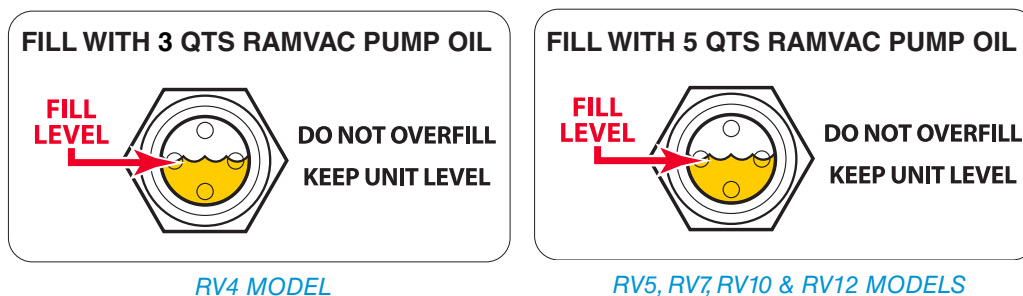

FIGURE 4. ADD VACUUM PUMP OIL TO FILL LEVEL
2. Add oil\* and check oil fill level at sight glass. **DO NOT OVERFILL.** To read oil levels correctly, get eye level with sight glass while unit is sitting level, and check that oil level is even with the head of the red arrow (*FIGURE 4*). Add or drain oil accordingly.